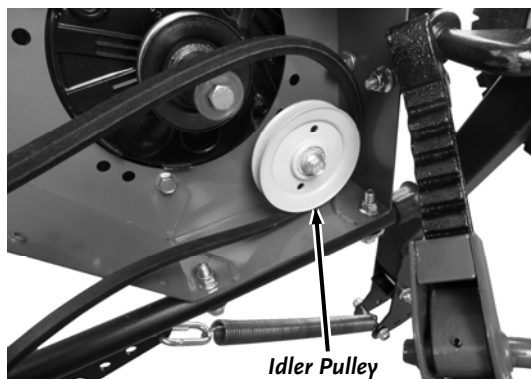

Figure 35
6. Use two 9/16" Wrenches to loosen the Idler Pulley enough so the Belt to be released from the Pulley (**Figure 35**). Remove the Belt from the machine.